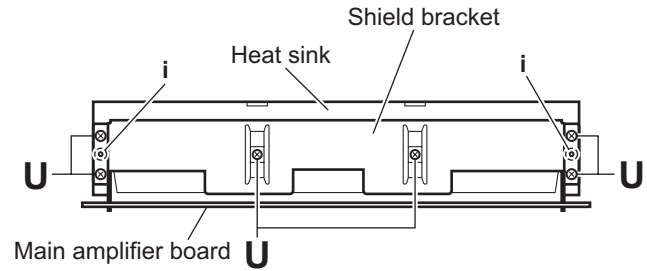

Fig.20
3.16 Removing the heat sink (See Figs.20 and 21)
(1) From the forward side of the main amplifier board, remove the six screws **U** attaching the heat sink to the shield bracket. (See Fig.20.)